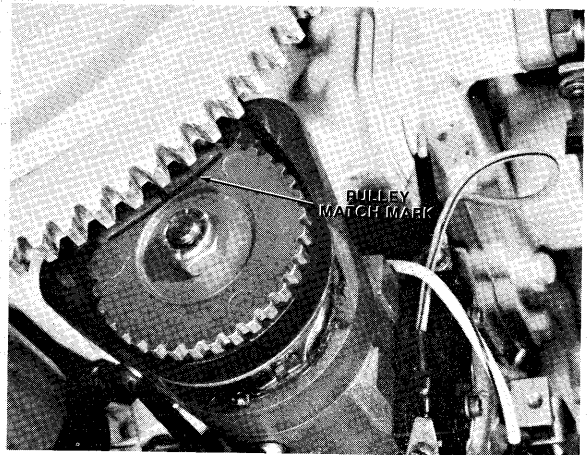

Figure 6—Aligning Distributor Pulley Match Mark With Flywheel
- G. The 36° mark on flywheel and the index line (I) on the timing pointer must be in alignment with each other; if not, shift timing pointer by loosening the two (2) screws securing pointer to powerhead and align these two (2) points.
- H. Turn flywheel to align 0° mark on flywheel with pointer index line (I). Turn distributor pulley to match the index mark on distributor pulley with outside diameter of flywheel. See figure 6.